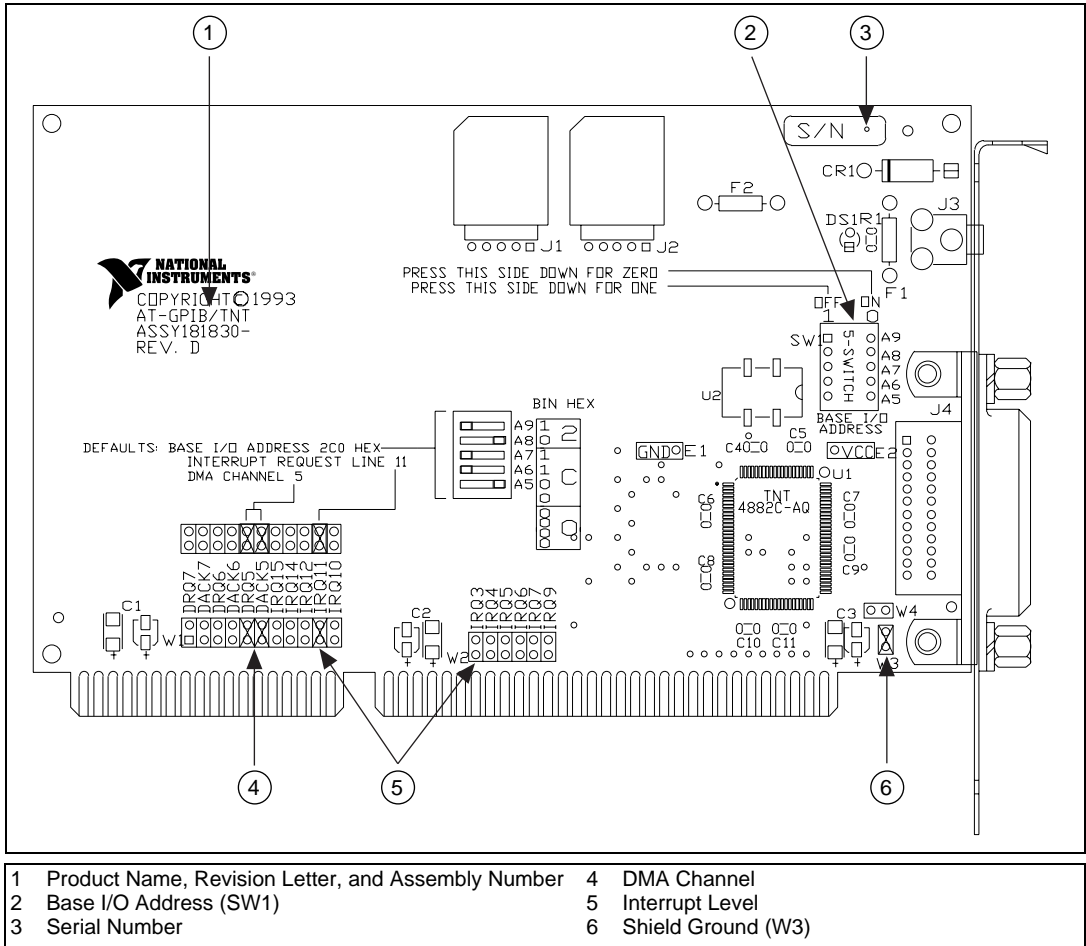
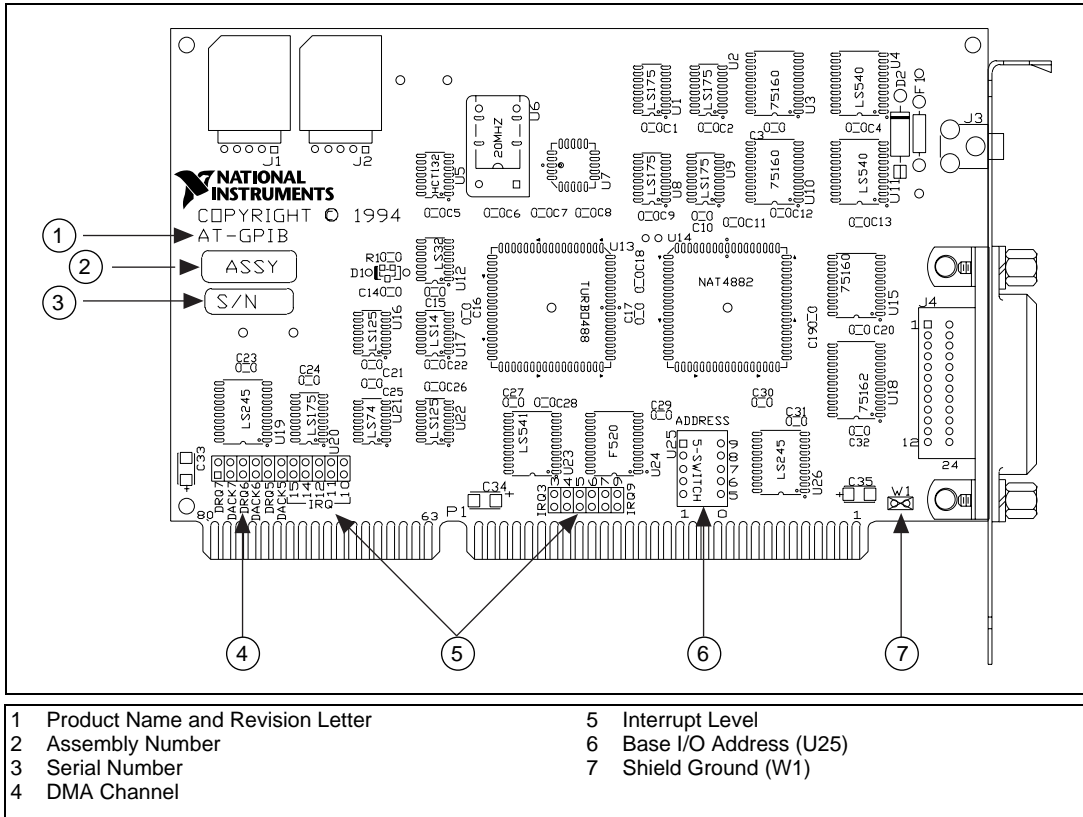

Figure 2-2. AT-GPIB/TNT Parts Locator Diagram
Figure 2-3. AT-GPIB Parts Locator Diagram
Refer to Figure 2-2 or Figure 2-3 to locate the switches and jumpers on your GPIB board.
Figure 2-2 shows the location of the configuration jumpers and switches on the AT-GPIB/TNT board.
Figure 2-3 shows the location of the configuration jumpers and switches on the AT-GPIB board.
2. Locate the base I/O address switch at SW1 on your AT-GPIB/TNT board or at U25 on your AT-GPIB board. Refer to the appropriate parts locator diagram, Figure 2-2 or 2-3.
2. Find the jumpers that set the interrupt request line. The jumpers are located on the lower edge of your GPIB board. Refer to the appropriate parts locator diagram, Figure 2-2 or 2-3.
2. Locate the jumpers that select the DMA channel. Refer to the appropriate parts locator diagram, Figure 2-2 or 2-3.
1. Refer to Figure 2-2 to locate the shield ground jumper W3 on the AT-GPIB/TNT board. If you are using the AT-GPIB board, refer to Figure 2-3 to locate the shield ground jumper W1.